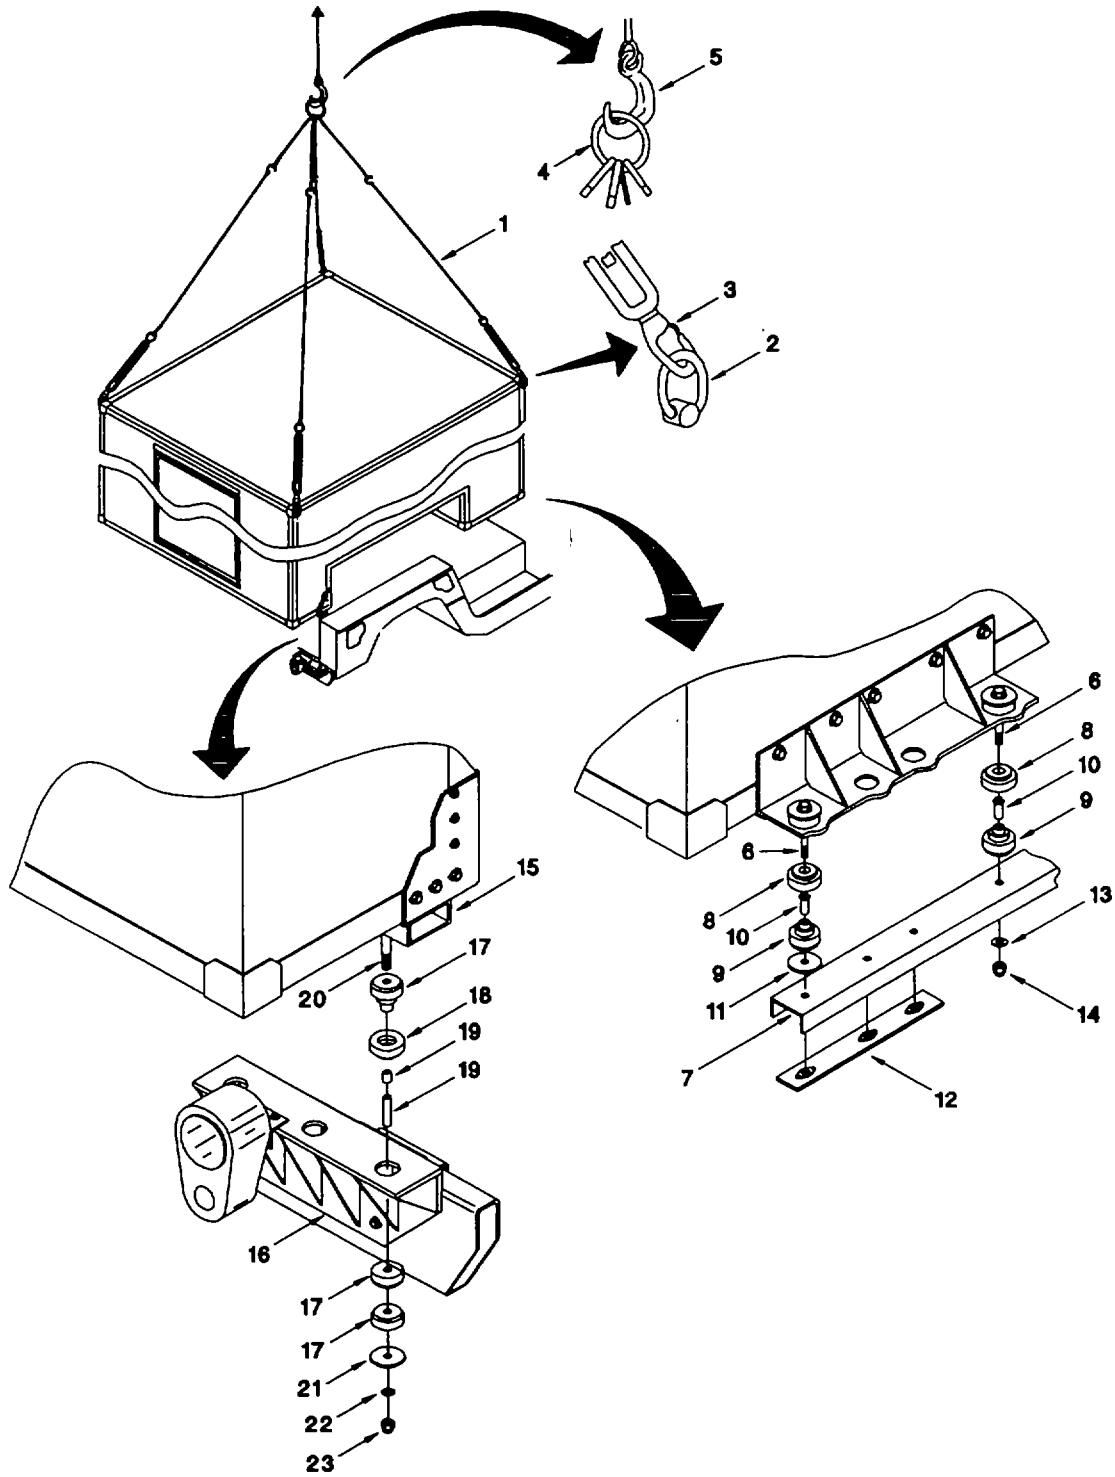

Figure 4-3. Shelter Mounting
d. Mounting Shelter on Vehicle (Refer to Figure 4-3)